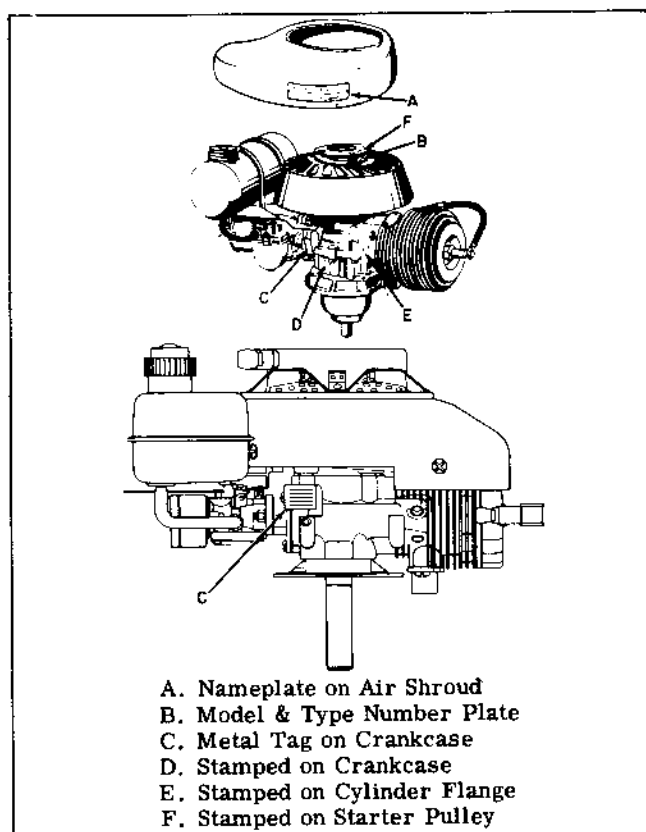

Figure 2-1. Location of Identification Numbers on 2-Cycle Engines
- (1) Look for Power Products 2-cycle engine identification tags at one of a number of locations (Fig. 2-1). The TYPE NUMBER must be included in all parts orders to insure delivery of correct parts.
- (2) Early Power Products engines listed the type number as a suffix of the serial number. For example, if the indicated number is 365341 P 238; 238 is the type number. In 2616758 G 606-01A; the type number is 606-01A.
- (3) Important in either case, is the TYPE NUMBER. Always refer to the TYPE NUMBER in correspondence concerning the engine.